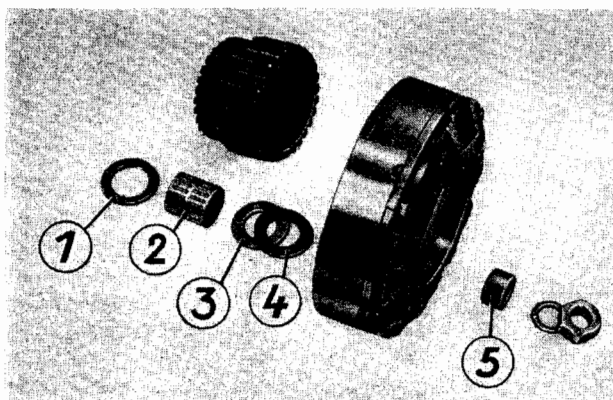
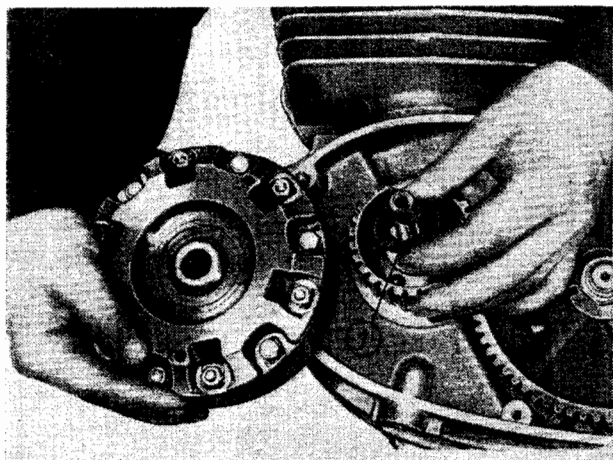

Fig. 74. Assembling sequence of the clutch components
Fig. 75. Mounting the clutch
Mount the thrust washer also in such a way that the chamfered side points to the crankshaft collar (Fig. 74, item 3).
The spring lock washer ($19 \times 34 \times 1$) ensures a tight fit of the thrust washer (Fig. 74, item 4 and Fig. 75, item 1). Then the clutch itself is mounted (take the condition of the tapers into consideration — also see Section 3.3.1.1.). Prior to this remove all oil from the tapers of crankshaft and clutch!
The first thing to do is to check that the 12 mm long distance sleeve (Fig. 74, item 5) is already on the crankshaft end.